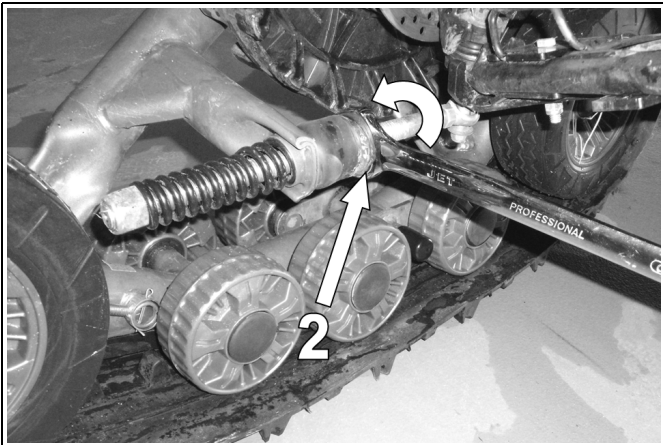

Figure 5
- Set the nut (2) shown on Figure 5 until the flat bar reaches  $315 \pm 5$  mm above the ground.